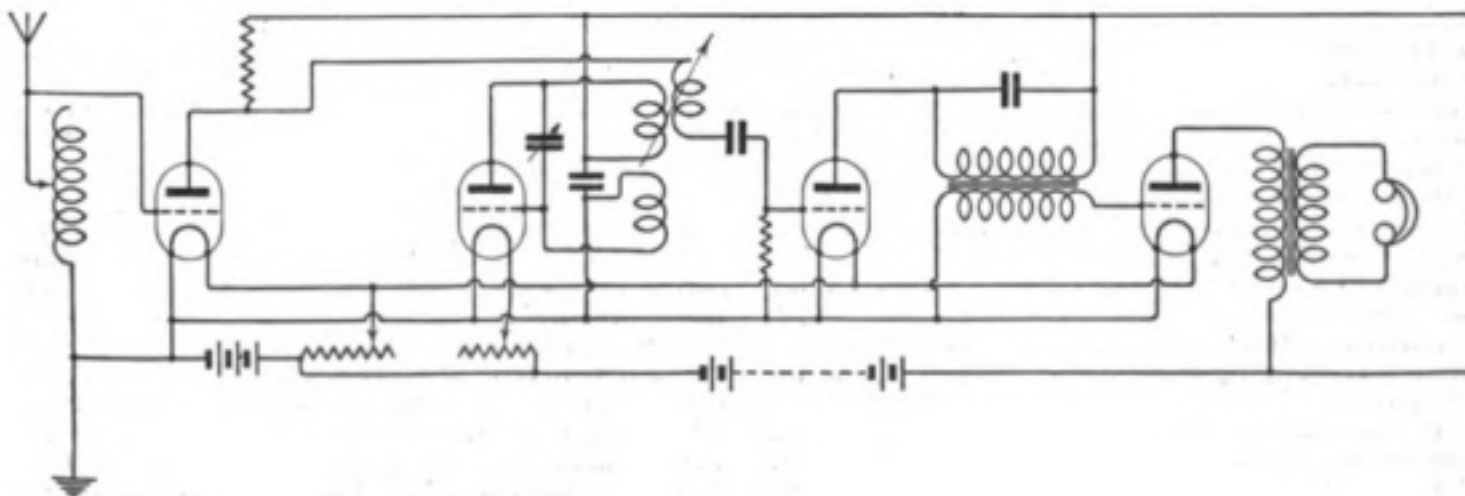

Fig. 1.
S.B.P.B. (Highgate) asks (1) For a four valve set, three receiving and one separate heterodyning valve. (2) If loose coupler coils may be used for the heterodyne coils. (3) Whether to use R or B valves.
(1) Diagram given in Fig. 1.
(2) Yes, but a considerable saving in space is made if fine wire basket coils are used. You will notice a small coil in the earth lead coupling into the oscillator inductance.
(3) Use an R valve.